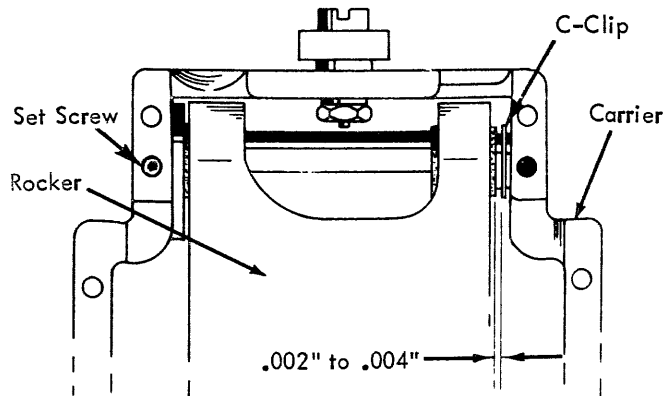

FIGURE 52. Rocket Shaft Adjustment
7. Rocker Shaft - Adjust the rocker shaft left or right to obtain .002" to .004" side play in the rocker (Fig. 52).